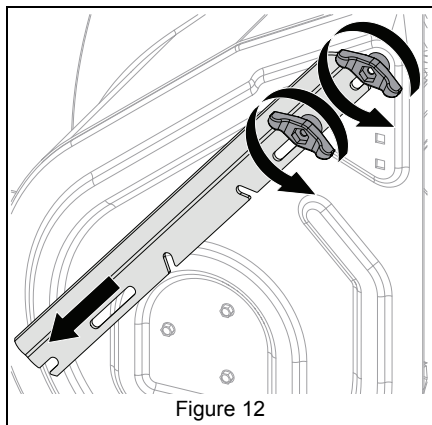

Figure 12
1. Loosen wing knobs and move drift cutter down. See Figure 12.